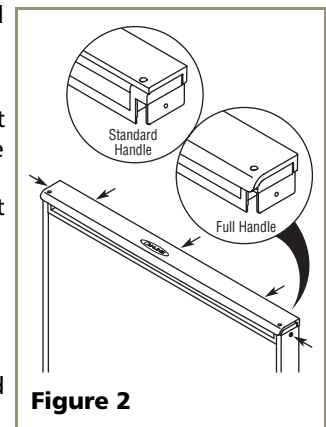

Figure 2
2. Remove and save the two outside screws (see **Figure 2**).